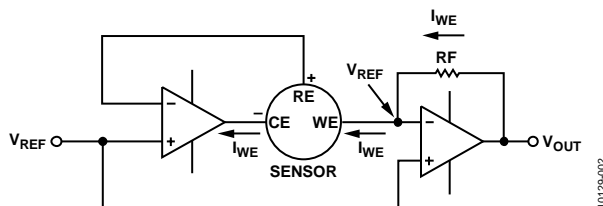

Figure 2. Simplified Electrochemical Sensor Circuit
Figure 2 shows a simplified schematic of an electrochemical sensor measurement circuit. Electrochemical sensors work by allowing gas to diffuse into the sensor through a membrane and interacting with the working electrode (WE). The sensor reference electrode (RE) provides feedback to maintain a constant potential with the WE terminal by varying the voltage at the counter electrode (CE). The direction of the current at the WE terminal depends on whether the reaction occurring is oxidation or reduction. In the case of carbon monoxide, oxidation takes place; therefore, the current flows into the working electrode, which requires the counter electrode to be at a negative voltage (typically 300 mV to 400 mV) with respect to the working electrode. The op amp driving the CE terminal should have an output voltage range of approximately ± 1 V with respect to V_{REF} to provide sufficient headroom for operation with different types of sensors (Alphasense Application Note AAN-105-03, *Designing a Potentiostatic Circuit*, Alphasense, Ltd.).